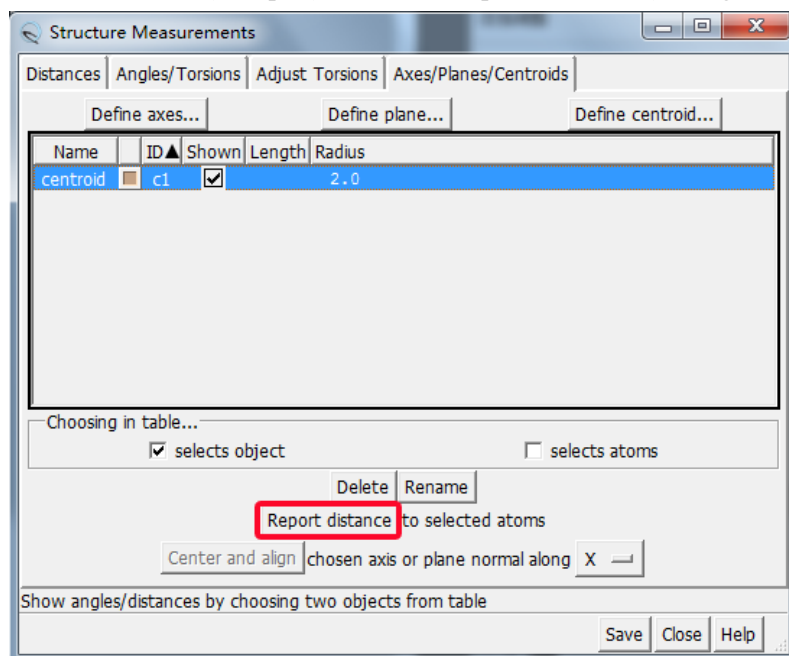

Figure 18. Report distance.
5. Select the defined centroid (blue part) and click “Report distance” (see Figure 18)